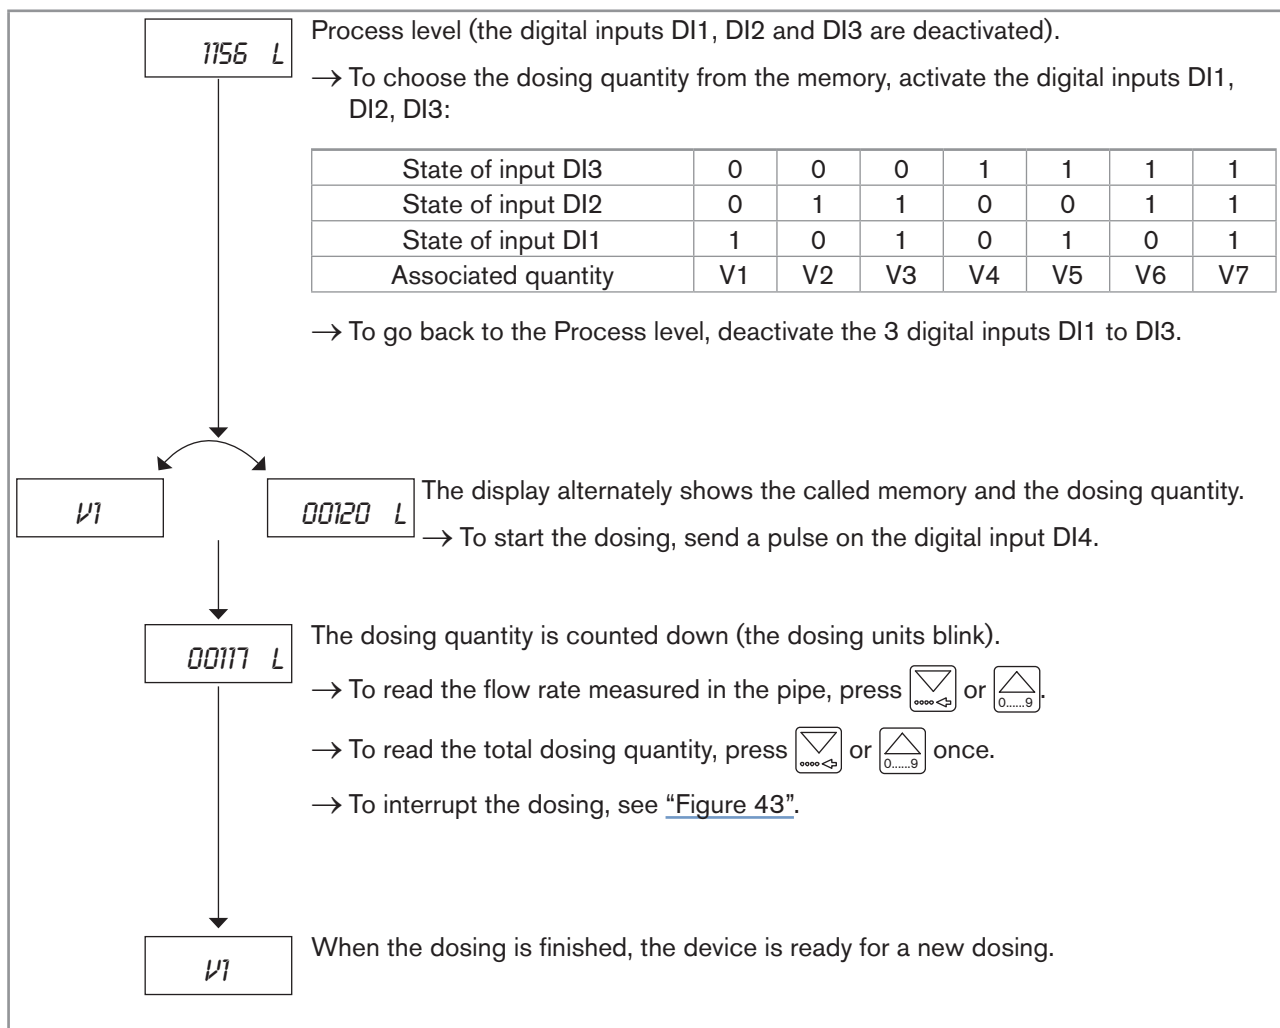

Figure 42: Doing a dosing of a quantity from the memory, in dosing mode "EXT. MEM."
→ Do a dosing as shown in "Figure 42".
- the digital inputs DI1 to DI3 allow for selecting one of the 7 dosing quantities, entered into the device memory (see "Figure 42", chap. "9.6.3"). If all the 7 dosing quantities are not used, only connect the necessary inputs. When a dosing has been interrupted, the digital inputs allow for the navigation within the pause menu, between the function "CONTINUE" and the function "RESET". If the dosing quantity is selected via the navigation keys and no dosing will be remotely aborted, inputs DI1 to DI3 can be left unconnected.